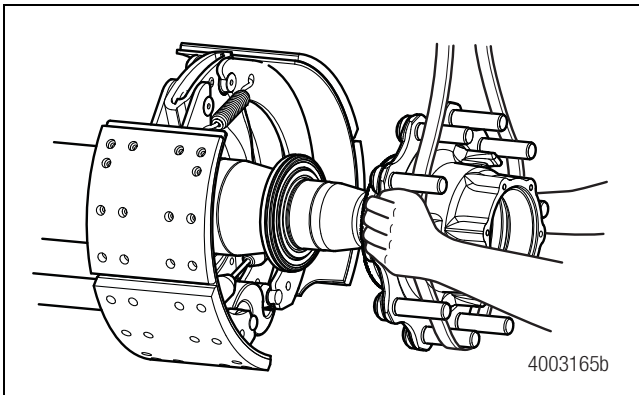

Figure 5.11
4. Support the hub and stud assembly using a sling or other appropriate method. Failure to do so may result in damage to the spindle threads or seal. Figure 5.11.